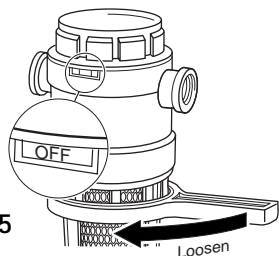

Figure 5
- Fit the wrench onto the ribs of the tank and turn it to the left to loosen the tank (see Figure 5).